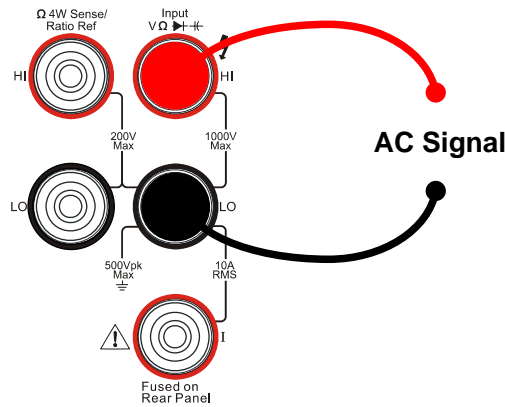

Figure 1-36
1. Connect test leads as Figure 1-36 shown. Red test lead connects the HI Terminal, Black test lead connects the LO Terminal.